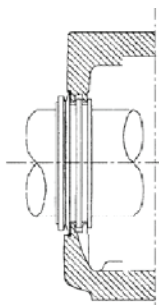

Figure 6b
7. Pack housing cap seal grooves with grease then install on base. While lowering the cap into the base make sure the metal seals with rubber bead line up with the outboard "V"-shaped cap grooves (Figure 6b). Tighten cap bolts to proper torque value. The rubber bead forms a positive seal in the "V"-shaped outer groove of the housing.